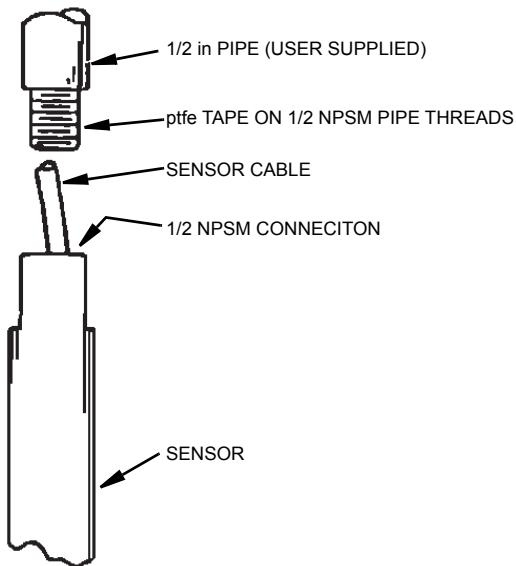

Figure 7. Submersion/Immersion Installation
1. Wrap ptfe tape on the 1/2 NPSM pipe threads. See Figure 7.